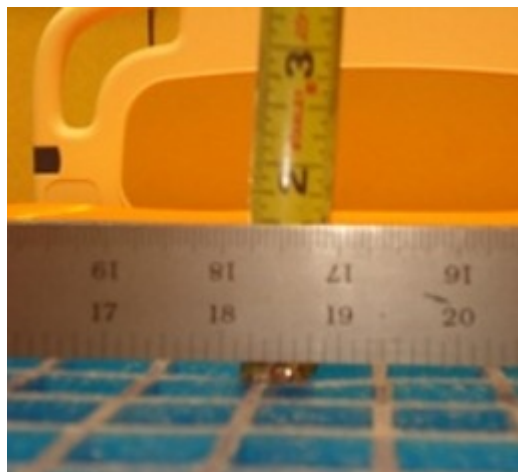

Figure 3: Measure maximum depth
6. Using a tape measure, measure the maximum depth (lowest point) from the bottom of the straight edge to the top of the foam (Figure 3 on page 15).